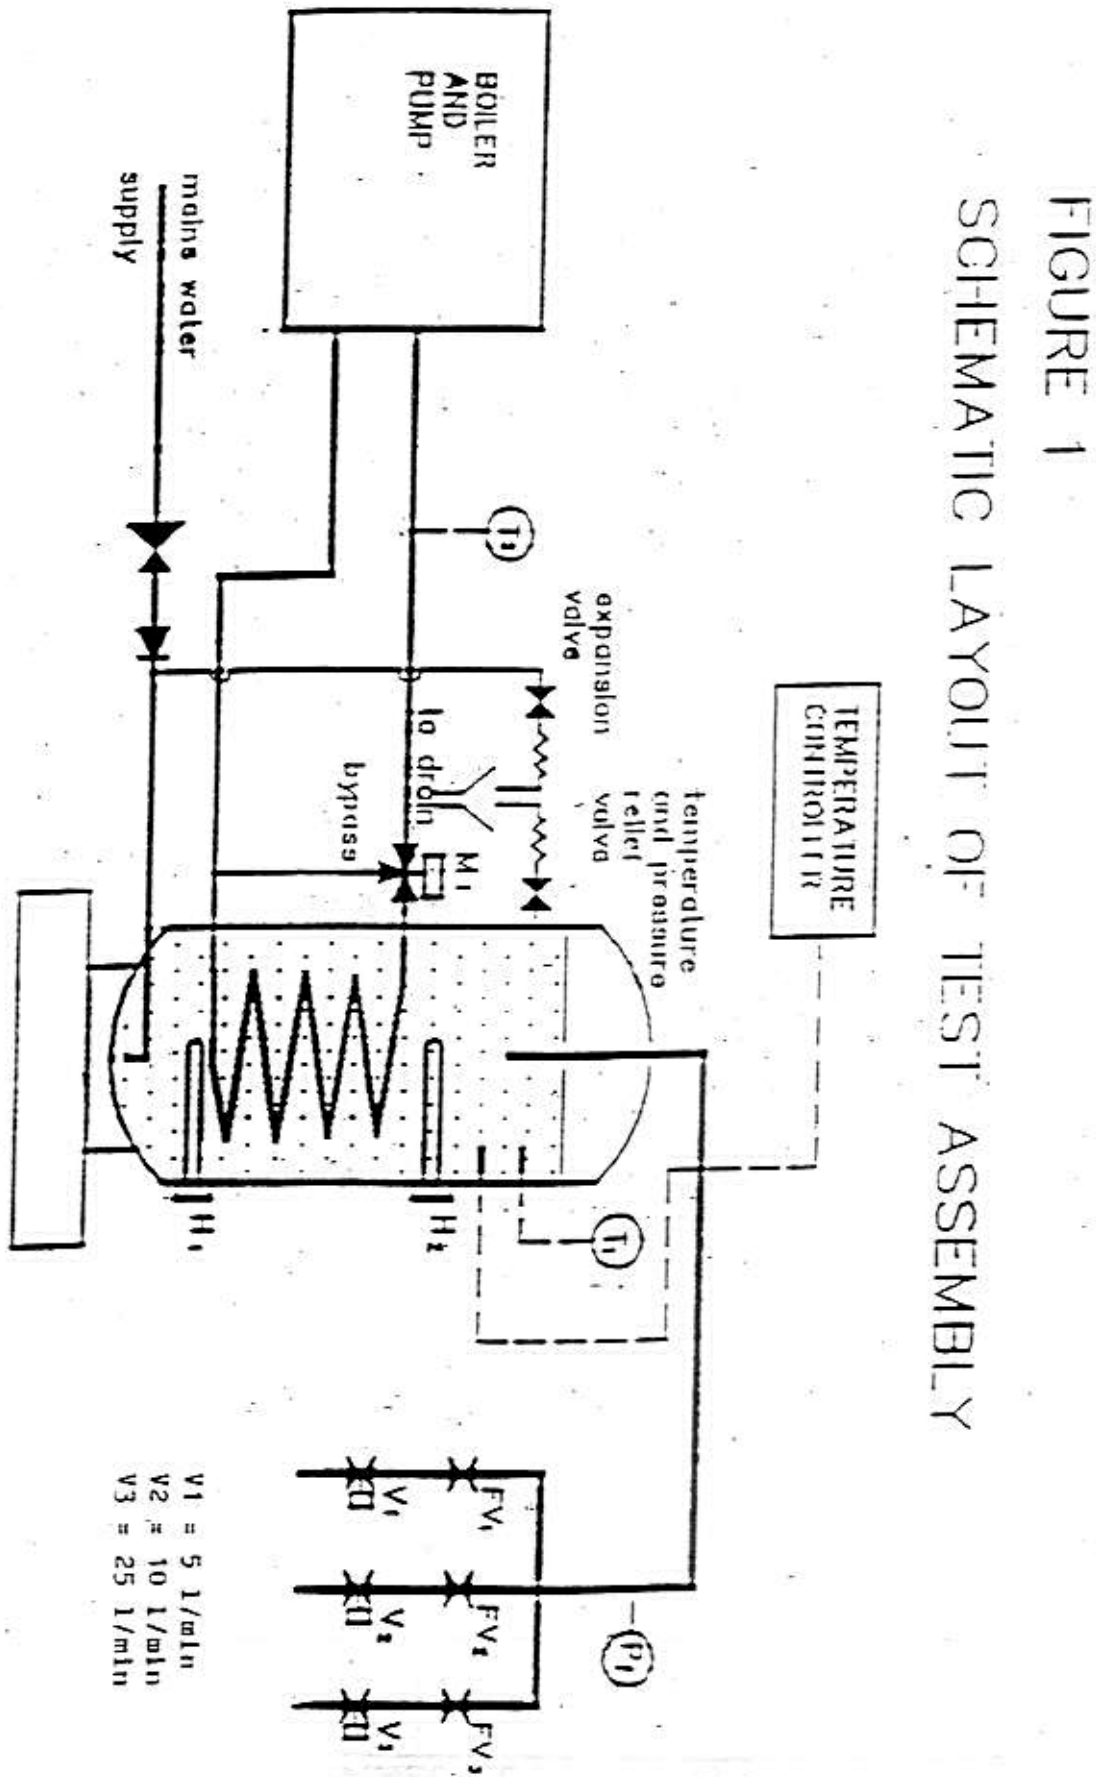

Figure 1 – Schematic layout of test assembly
Assemble the system under test in accordance with the manufacturer's instructions ensuring that the system is correctly commissioned and in accordance with Figure 1 (except FV1, FV2 or FV3 - see (1) below).
- (1) Install the flow meters as in Figure 1 or use one flow meter to give readings of all three solenoid valves. Install directly on the hot water take-off from the top of the cylinder.
- (2) Wire the immersion heater to the control panel.
- (3) Wire the thermostat on the cylinder to the control panel.
- (4) Connect control panel up to power supply.
- (5) By-pass the solenoid valves and set flow rates as follows;
- (6) Reset control panel. Press black button and hold for 5 seconds.
- (7) Start test. Press blue button on control panel, either option A (95 days) or (63.3 days).
- (1) Install the flow meter as in Figure 1 or use one flow meter to give readings of all three solenoid valves. Installing directly on the hot water take-off from the top of the cylinder.
- (2) Wire the pump on the primary side up to the control panel.
- (3) If the primary circuit cannot reach the temperature within the domestic side of the cylinder within the time stated in Option A or Option B, then connect the immersion heater either up to the control panel or directly to the power supply to compensate for this.
- (4) Wire the thermostat on the cylinder to the panel.
- (5) Connect control panel to power supply.
- (6) By-pass the solenoid valves and set flow rates as follows;
- (7) Reset control panel. Press black button and hold for 5 seconds.
Test equipment to be used (See Figure 1).